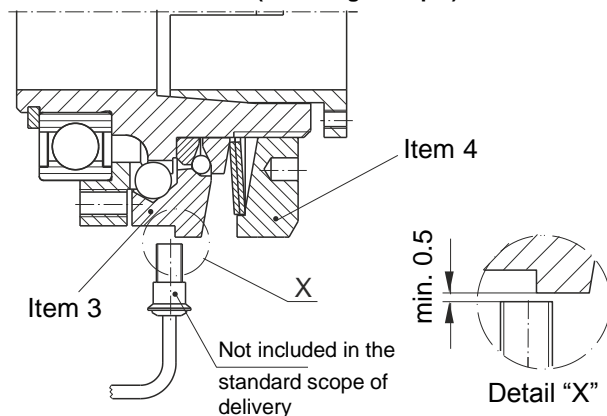

Fig. 13
Grinding, mechanically actuated limit switches are only permitted for application in areas where there is a danger of explosion if it can be proved that there is no danger of ignition caused by the grinding movement of the mechanical limit switch on the clutch. The contactless limit switch is to be mounted onto the switching edge of the clutch (Fig. 13) so that no signal changes are caused during normal operation on the limit switch by the usual clutch run-out errors.
- Adjust the switch distance for the contactless Ex-limit switch acc. Fig. 13.